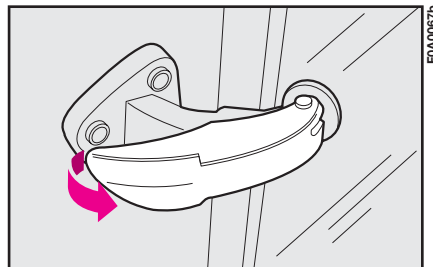

fig. 103
- 1) Move the lever as shown in fig. 103.